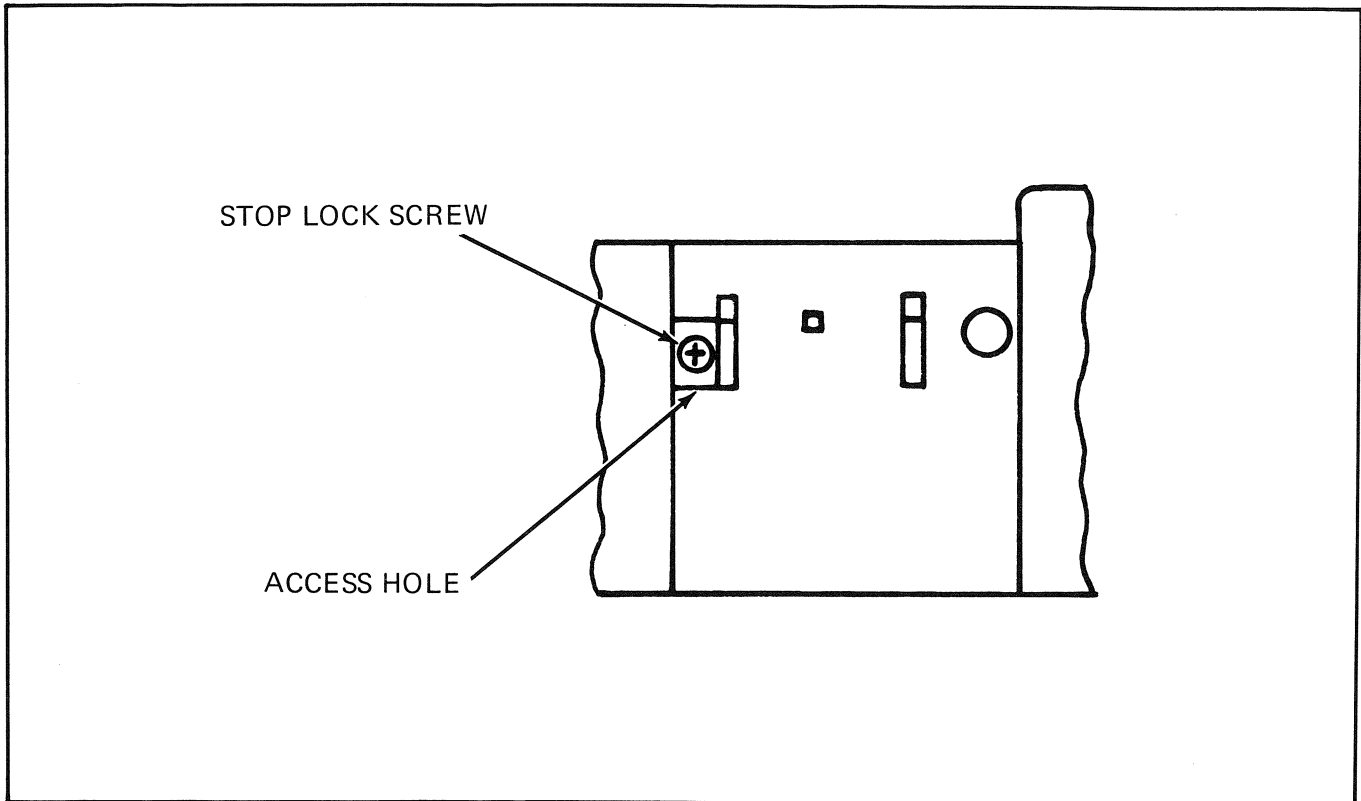

Fig. 4-1
5. Locate the large recessed portion in the center of the control panel 881-830 and note the square hole in the upper left corner of the recess. This is the access hole for the pressure roller arm stop lock screw 505-055. (See figure 4-1.)